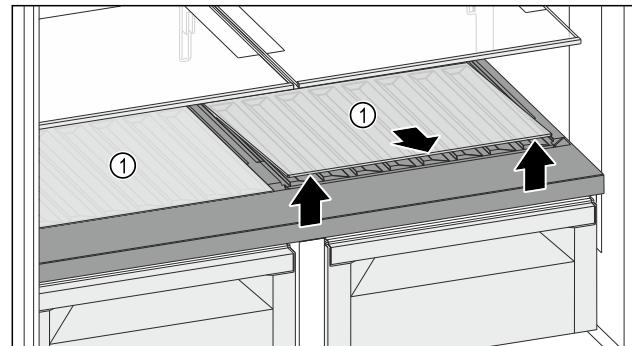

Fig. 113
- Lift one or both glass shelves Fig. 113 (1) at the front and remove.
- Store the glass shelf(shelves) Fig. 113 (1) in a secure place outside the appliance.